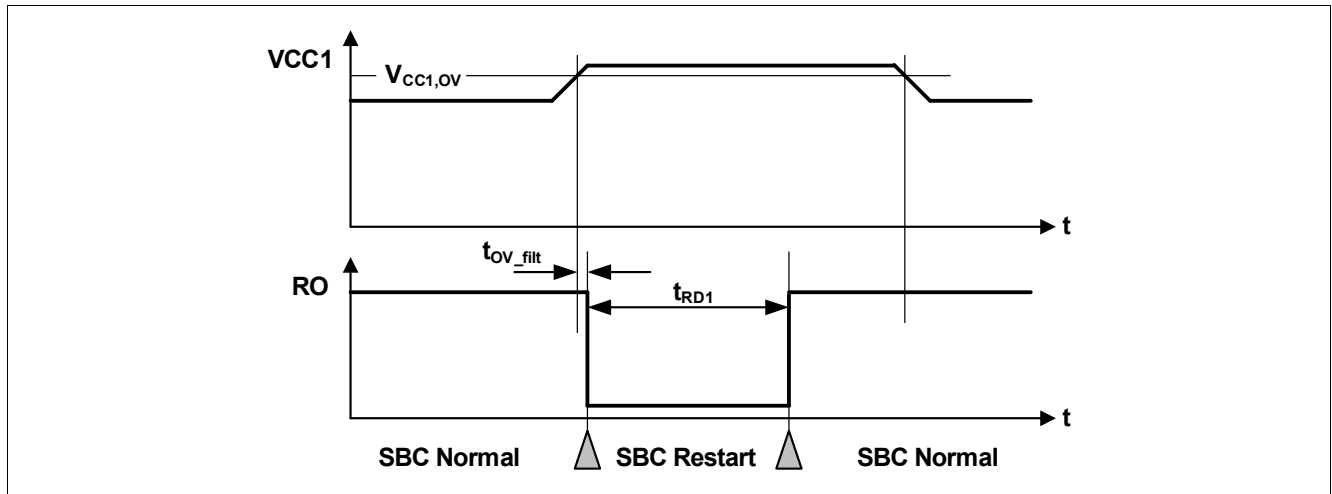

Figure 53 VCC1 Over Voltage Timing Diagram
- If the bit **VCC1_OV_RST** is set and **CFGP** = '1', then SBC Restart Mode is entered. The FOx outputs are activated. After the reset delay time (t_{RD1}), the SBC Restart Mode is left and SBC Normal Mode is resumed even if the VCC1 over voltage event is still present (see also Figure 53). The **VCC1_OV_RST** bit is cleared automatically;